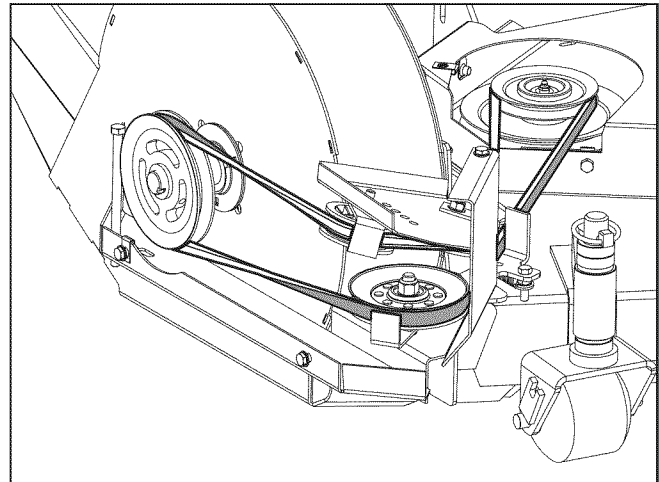

Figure 28. Install Belt
2. Install the blower drive belt. Refer to Figure 28 for the proper belt routing. It may be required to loosen the idler pulley mounting hardware to get the belt past the belt keeps.